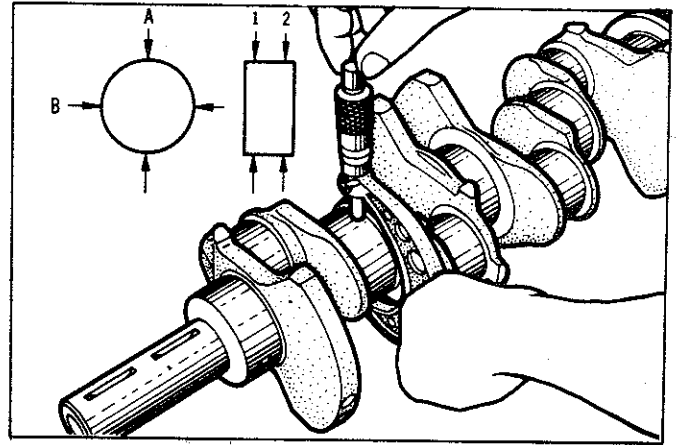

Fig. 44—Measuring crankshaft journal diameter
(3) Measure the crankshaft journal diameters as shown in Fig. 44. If they are excessively out of round, tapered or worn they must be re-ground to the next undersize.
(4) When grinding the crankshaft, care must be taken to ensure the crankshaft journal fillet radii are 2,5 mm (0.098").
(1) Measure the outside diameter of the main and connecting rod journals, Fig. 44.